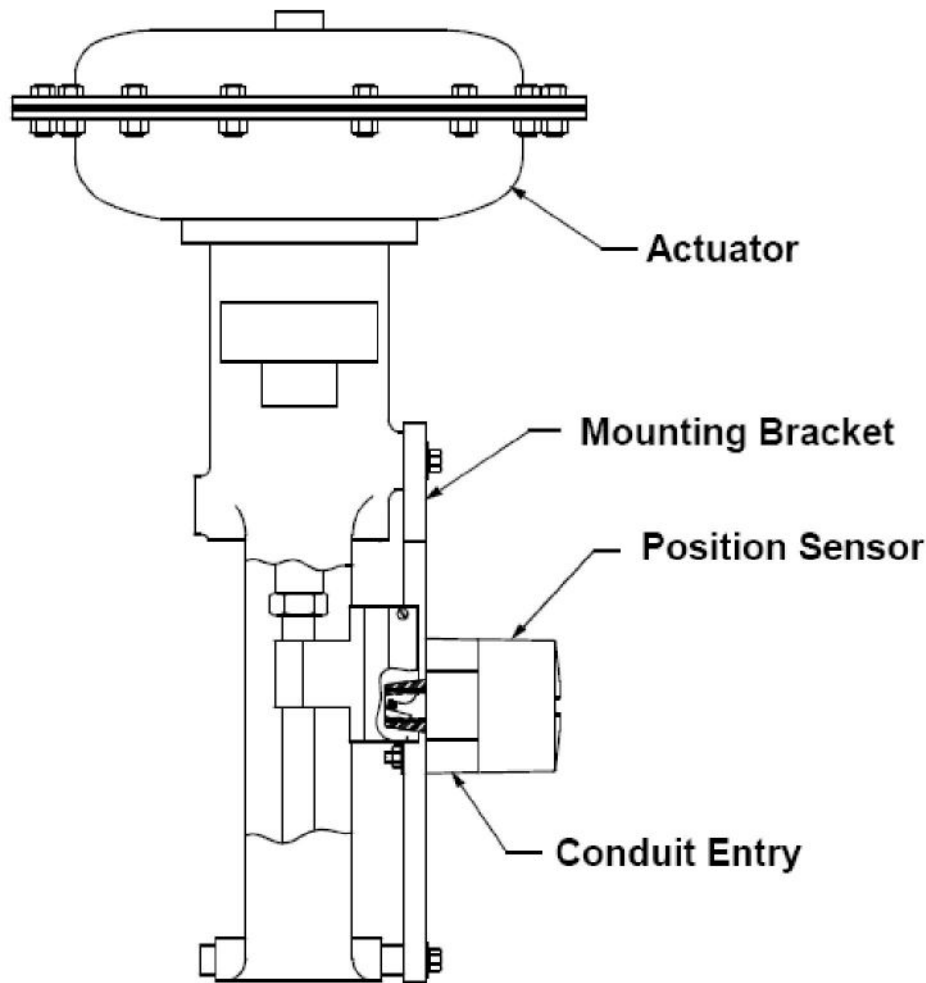

Figure 3-6
Step 2. Mount the position sensor housing so that the conduit entry faces away from the diaphragm or cylinder. (See Figure 3-6)